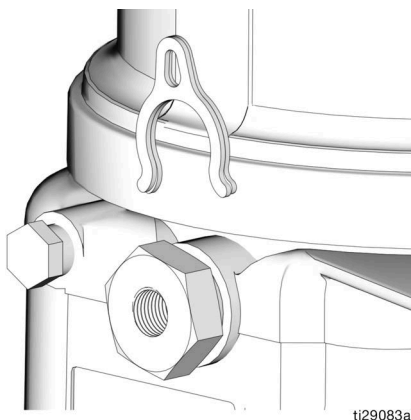

FIG. 18
- Use a wrench to turn the pump element counter-clockwise to loosen. Do not remove the entire pump element. Only back the pump element out enough to allow a spacer to be slid on or off. (FIG. 18).
The pump volume control is set using no spacers, one (1) or two (2) spacers (FIG. 18).